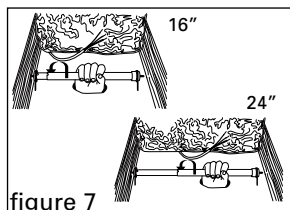

figure 7
4. Using one hand, push end "A" toward the ceiling joist and screw into the wood until it is hand tight (figure 7). **Do not use pliers or a wrench.** During this process, the outer tube acts as a notched screwdriver.